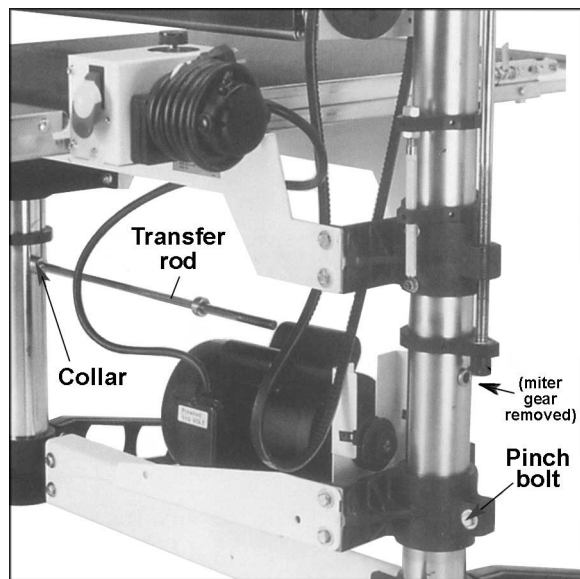

Figure 38
3. Use a flat blade screwdriver to pry off the protective cap over the inboard miter gear, and loosen the set screw in the gear's collar. Remove the miter gear and loosen outboard collar (Figure 38). Slide cross bar toward outboard side as shown.
4. Loosen v-belt tension by loosening pinch bolt in motor support (Figure 38) and raise motor. Remove v-belt from pulleys.